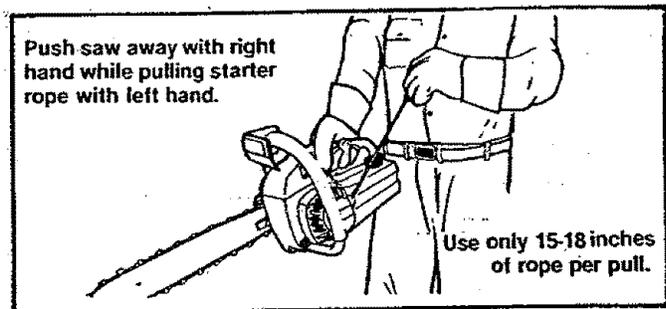

Figure 17
- a. Hold saw firmly with the saw chain free to turn without contacting any object. Push saw away from you with your right hand while pulling the starter rope with your left hand. Figure 17.